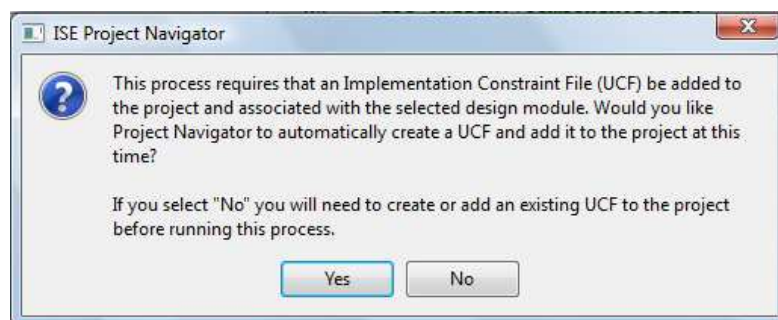
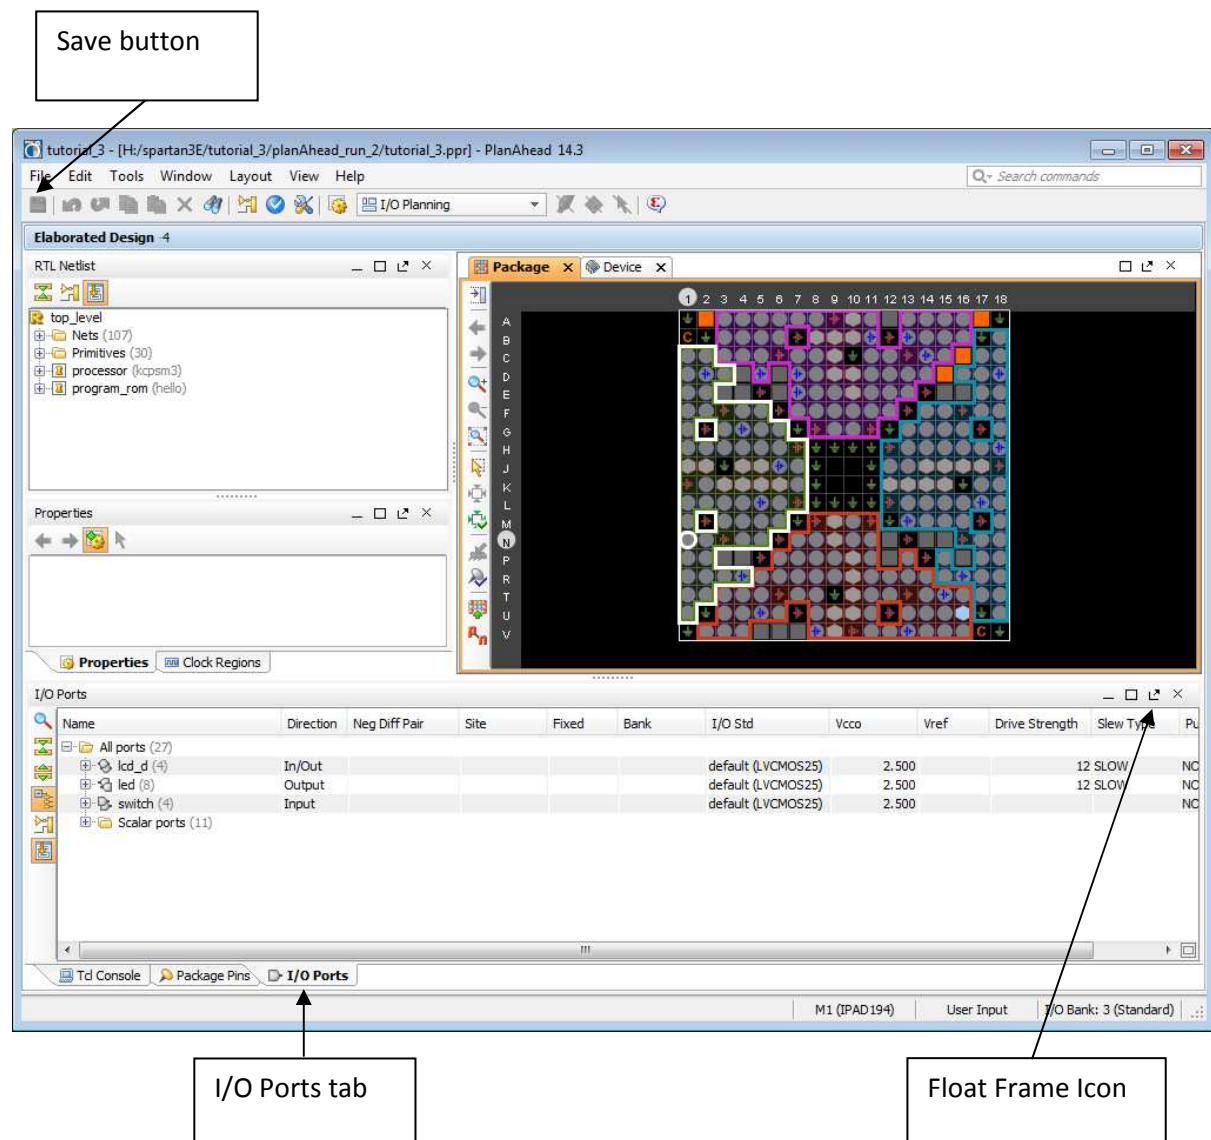
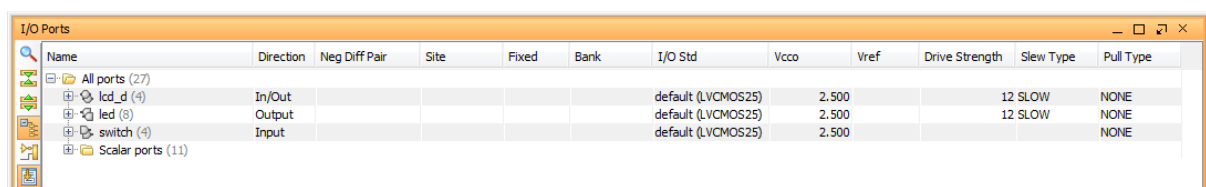

Figure 6.40: Dialog Box asking if you wish to create an Implementation Constraint File.
Figure 6.41: Initial appearance of PlanAhead window.
Figure 6.42: I/O Ports displayed in a separate window.
2. Double-click on **I/O Pin Planning (PlanAhead) – Pre-Synthesis**. The first time this is done, the window of Figure 6.40 will appear, asking whether it is OK to create a UCF file. Click **Yes**.
3. After clicking **Yes** in Figure 6.40, the **PlanAhead** window of Figure 6.41 will appear. Click on the **I/O Ports** tab, and then the **float frame** icon. This displays the I/O Ports in a separate window, as shown in Figure 6.42.
- Click on the '+' next to **lcd_d(4)**, **led(8)**, **switch(4)** and **Scalar ports(11)** in Figure 6.42. This will display all individual input/outputs as shown in Figure 5.33.